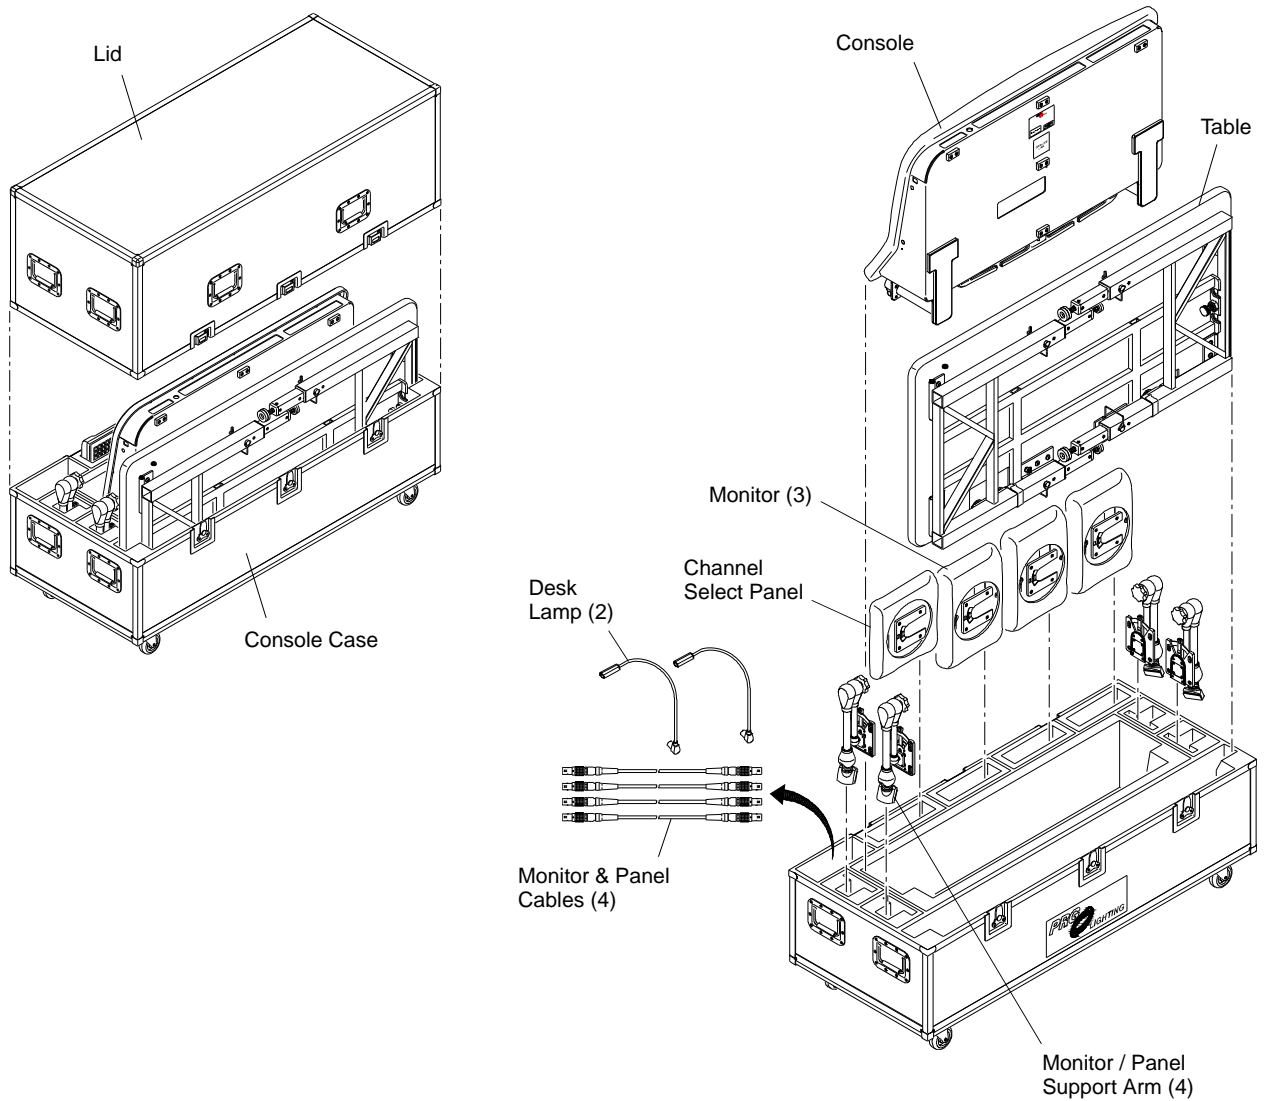

Figure 1-4: V676 Console Case Contents
Step 1. Remove lid from console case (Figure 1-4).